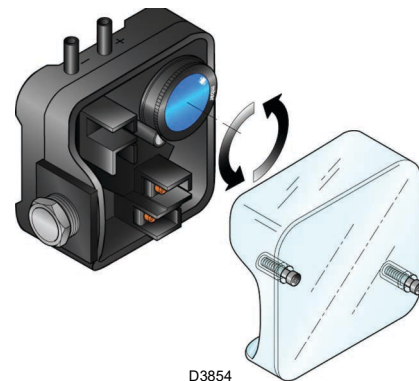

Fig. 37
- Adjust the air pressure switch (Fig. 37) to the zero position of the scale.
Adjust the air pressure switch (Fig. 37 on page 32) after having performed all other burner adjustments with the air pressure switch set to the min. of the scale.